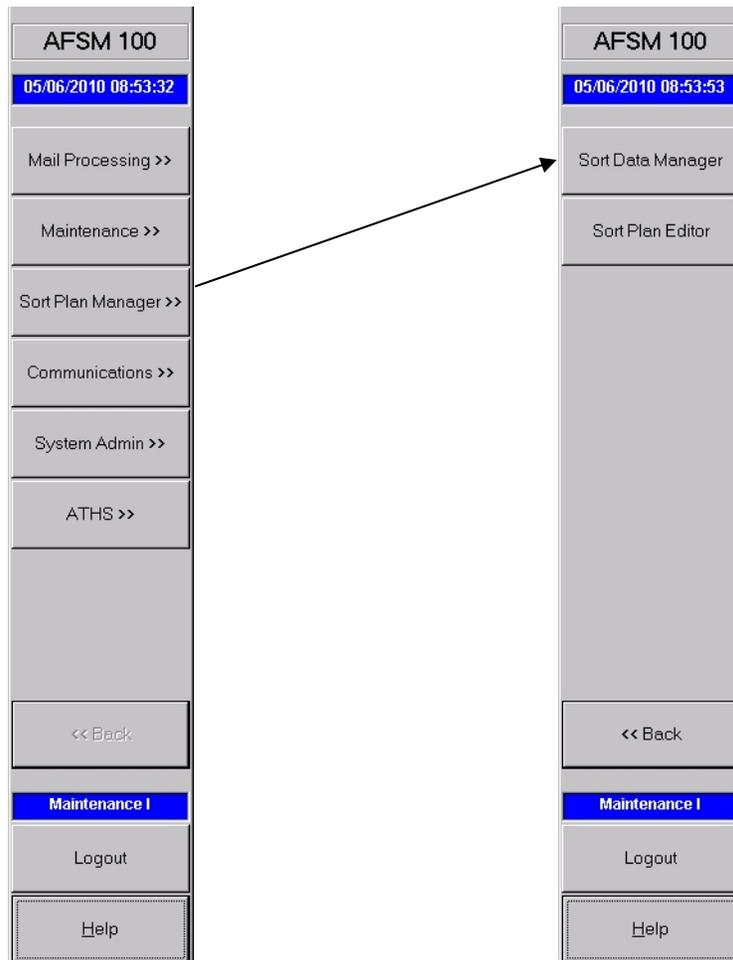

Figure 2-1. Sort Plan Installation
2. From the main button bar, click on **Sort Plan Manager**, then **Sort Data Manager**. See Figure 2-1.